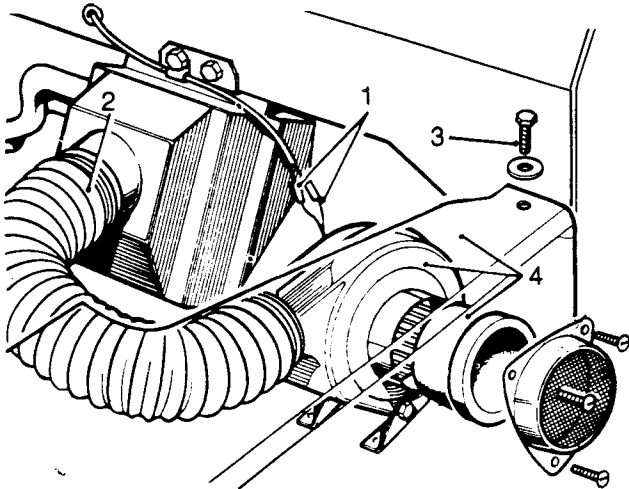

Fig N3.18
- (1) Disconnect the battery earth lead.
- (2) Disconnect the blower motor leads ((1) on Fig N3.18).
- (3) From inside the cab, remove the trim stuck to the bulkhead panel.
- (5) Refer to Fig N3.18. Lift the bonnet and disconnect the air hose at the matrix inlet (2).
- (6) Remove the wing panel rear top fixing bolt (3).
(7) Manoeuvre the blower motor assembly clear, lifting the wing panel sufficiently to allow passage. (4)
(8) Remove the air inlet seal (see Sub-section N3, Chapter 9).